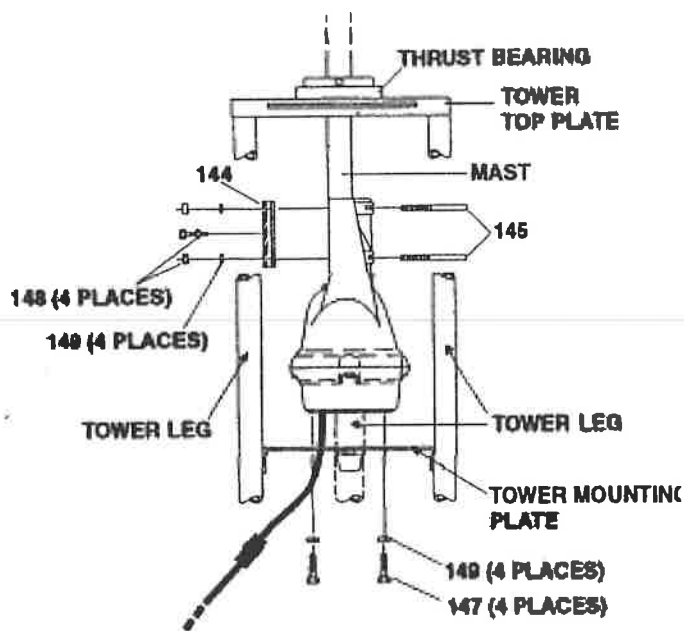

Figure 4
There are three general types of installations (see Figures 4, 5 and 6).
- The rotator is attached to the tower plate by means of four (4) bolts and lockwashers (see Figure 4). The flat tower plate must be drilled in four (4) places using the template provided with this manual unless the tower plate is already properly drilled.
- Tighten the four (4) bolts, but not to final tightness. Observe how the rotator turns. It must rotate in such a manner as to turn the mast concentrically in the thrust bearing.
- Trial assemble the mast to the top of the rotator using the U-bolts, nuts and lockwashers through the rotator and clamp plate as shown in Figure 4. The maximum mast diameter that may be used is 21/16" O.D. We recommend 1 1/2" nominal steel pipe with 1.9" O.D. in standard wall thickness of .145". For stacked arrays or very large beams, we recommend extra heavy-duty wall thickness of .200". Both steel pipes can be purchased to specification ASTM120.